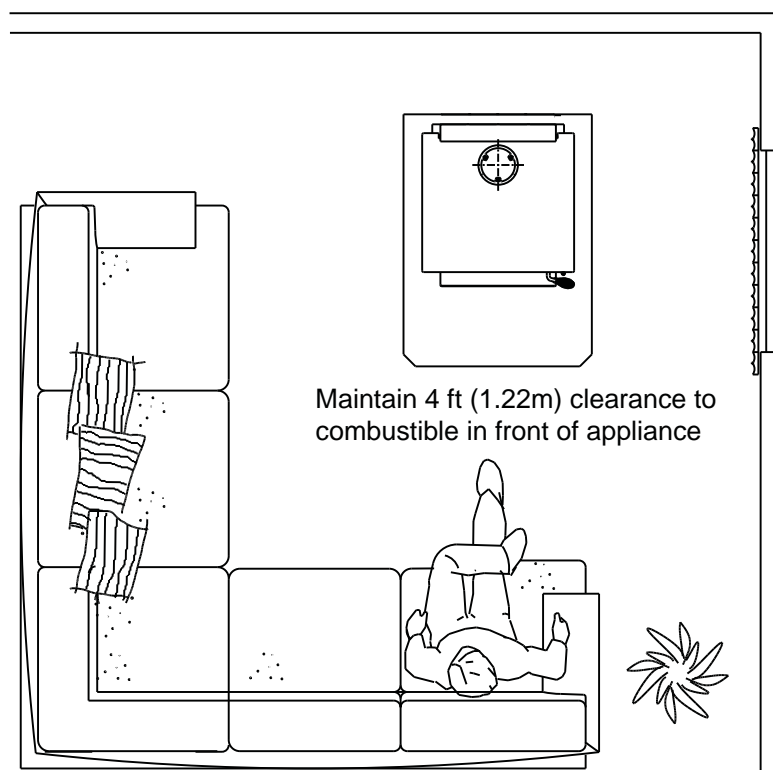

Figure 17.1 - Clear Space
- Do NOT place combustible objects within 4 ft (1.2 m) of the front of appliance. **Figure 17.1.**